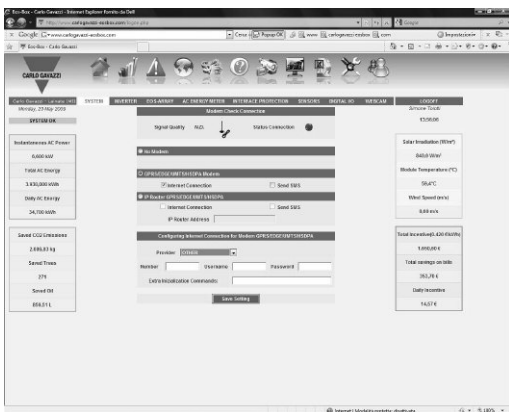

Fig. 20
- Modem (Fig.19 and Fig.20): this sub-menu allows not only to configure the connected wireless modem but also to check if it works. The following parameters can be set: No modem; GPRS/EDGE/UMTS/HSDPA modem with internet connection and/or SMS; IP router based GPRS/EDGE/UMTS/HSDPA with internet connection and/or SMS, and IP router address; configuration of Internet connection selecting also the provider.